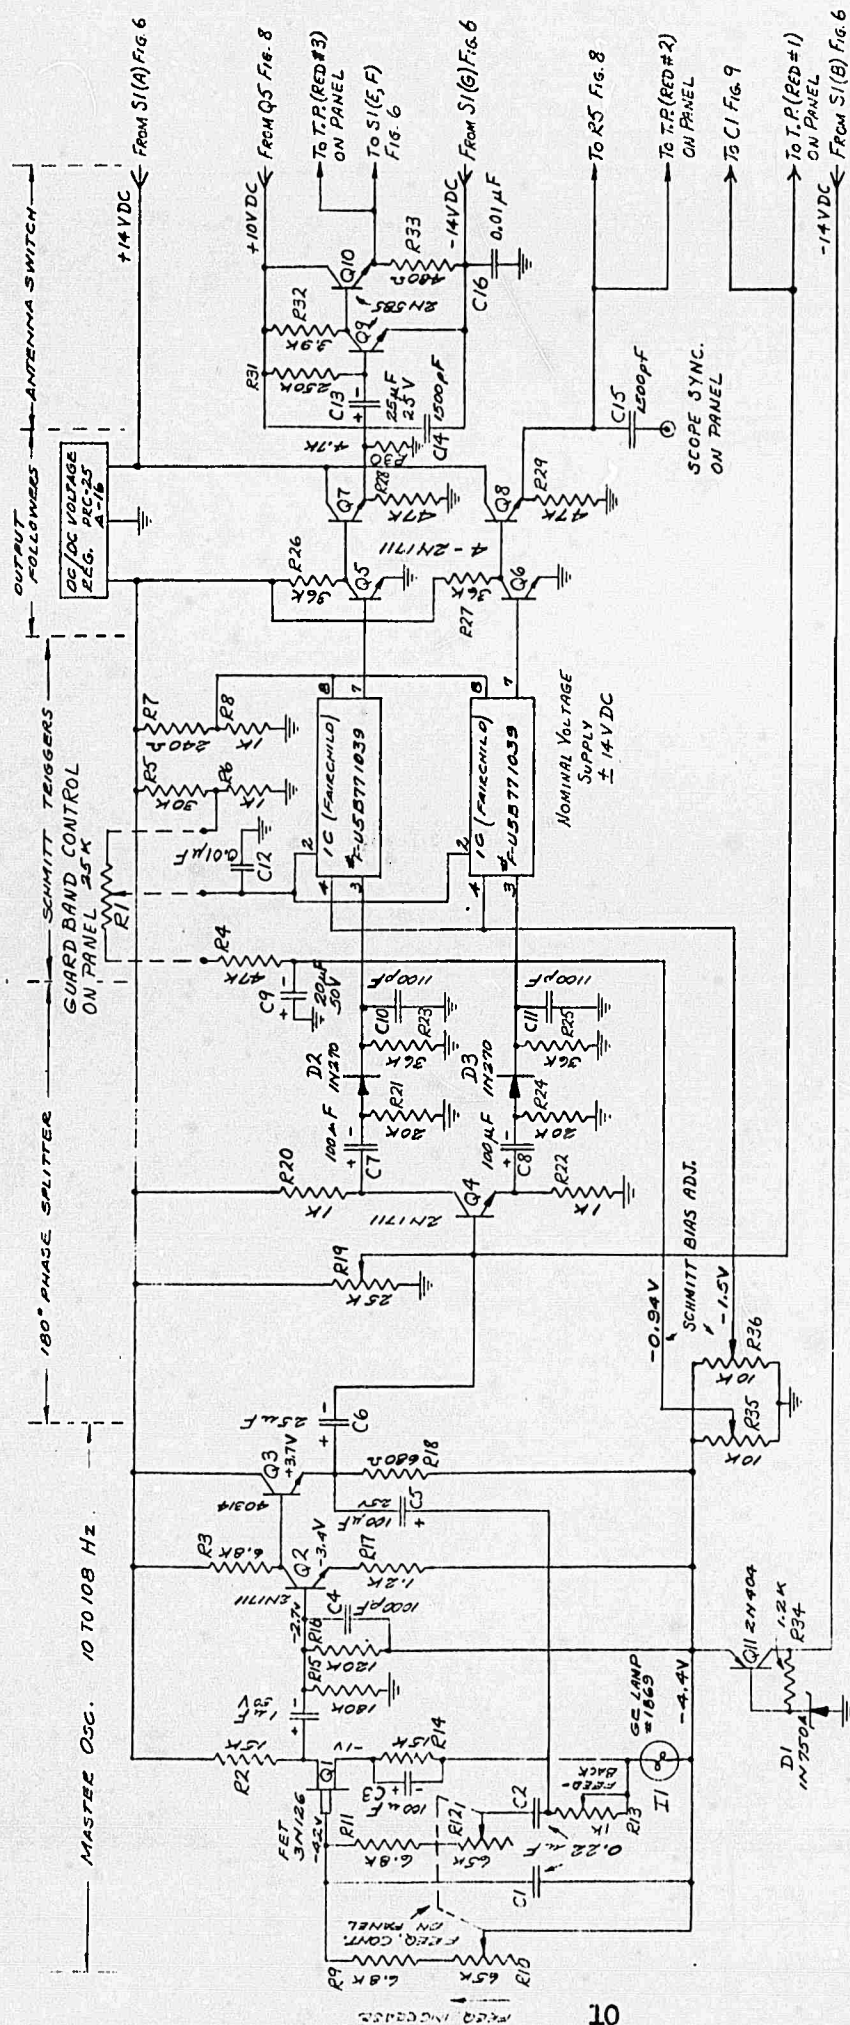

Figure 7. Master-Oscillator (Board No. 1), Schematic Diagram
1. GUARD BAND Control (R1, Fig. 7)
2. SCOPE SYNC. Connector (Fig. 7)
3. FREQ. Control (R10, R12, Fig. 7)
18. Red Test Points* (Fig. 7)
3.1.1 Master Waveform Generator (See Fig. 7.)
An emitter-follower (Q11) output circuit provides sufficient power to the lamp circuit, although very little power is required to drive the circuits following the oscillator. The lamp is operated at a filament temperature where the resistance changes quite rapidly with applied current. Thus, the amount of negative feedback (which is proportional to the AC voltage drop across the lamp) is automatically adjusted until a new balance is achieved. The actual level of the oscillator output is not critical as long as it is steady, and can be adjusted by a trimpot (R13), as shown in Fig. 7. A test point on the panel (RED #1) can be used to check oscillator output level and waveform.
Also shown in Fig. 7 is the driver circuit (Q9, Q10) for both the Antenna Switch and the Retransmitter power control. The circuit, a simple amplifier and power follower, is needed because greater voltage swing and power are required to drive the Antenna Switch than can be obtained readily from the trigger/follower circuits. This because diode turn-on current in excess of the RF peak must be supplied when the Repeater is operating in the Retransmit mode, so as to prevent opening the Antenna Switch during the RF cycle.
- #1 - Level should be about 1-1/2 V on AC Meter (4 V p-p on scope). Several seconds are needed for automatic regulator to settle down, after a disturbance, such as frequency change. Very steady indication during normal operation, with a very "clean" wave. Level is adjustable by means of black trimpot Feedback Control on Board No. 1 (R13, Fig. 7).